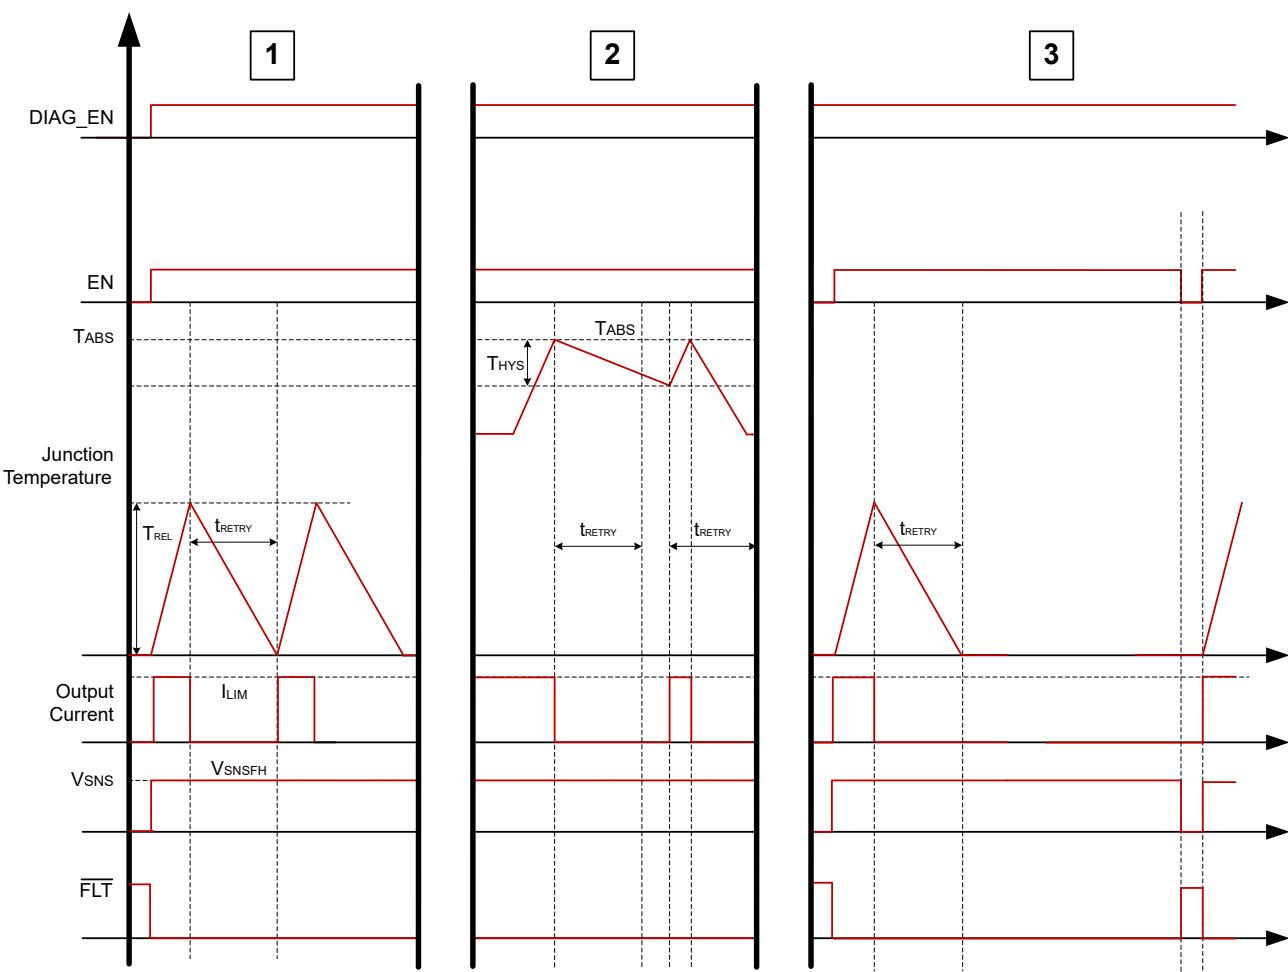

Figure 7-14. Thermal Behavior
The thermal protection behavior can be split up into three categories of events that can happen. Figure 7-14 shows each of these categories.
1. **Relative thermal shutdown:** The device is enabled into an overcurrent event. The output current rises up to the I_{ILIM} level and the \overline{FLT} goes low. With this large amount of current going through the junction temperature of the FET increases rapidly with respect to the controller temperature. When the power FET temperature rises T_{REL} amount above the controller junction temperature $\Delta T = T_{FET} - T_{CON} > T_{REL}$, the device shuts down. For auto-retry version, after t_{RETRY} , the part tries to restart. The latch version requires EN to be toggled to re-enable the channel. The \overline{FLT} pin is asserted until the fault condition is cleared. The first plot in Figure 7-14 shows the relative thermal shutdown behavior for the auto-retry version.
2. **Absolute thermal shutdown:** the device is still enabled in an overcurrent event. However, in this case the junction temperature rises up and hits an absolute reference temperature, T_{ABS} , and then shuts down. For auto-retry version, the device does not recover until both $T_J < T_{ABS} - T_{hys}$ and the t_{RETRY} timer has expired. For latch version, toggling EN is required to re-enable the channel. The second plot in Figure 7-14 shows the absolute thermal shutdown behavior for the auto-retry version.
3. **Latch behavior:** the device is enabled into an overcurrent event. The $DIAG_EN$ pin is high so that diagnostics can be monitored on SNS and FLT . For the latched version of the device, if the part shuts down due to a thermal fault, either relative thermal shutdown or absolute thermal shutdown, the device does not enable the channel until the EN pin is toggled. The third plot in Figure 7-14 shows the relative thermal shutdown behavior for the variants with LATCH pin when LATCH pin is HIGH.